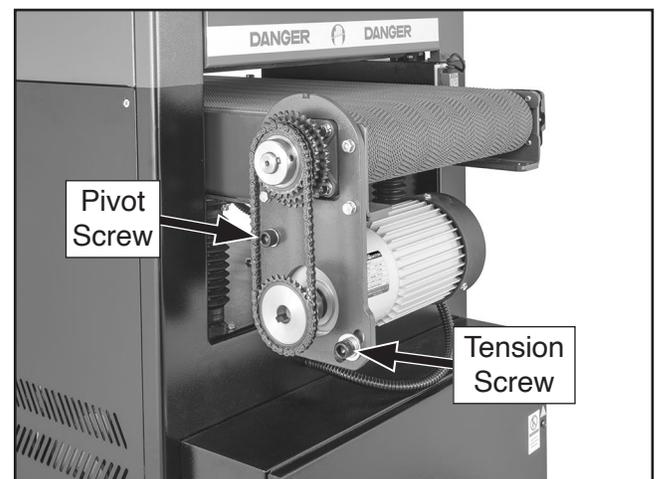

Figure 46. Location of pivot and tension screws.
3. Loosen pivot screw and tension screw shown in **Figure 46**, lift motor to release chain tension, then tighten tension screw to secure motor in place.